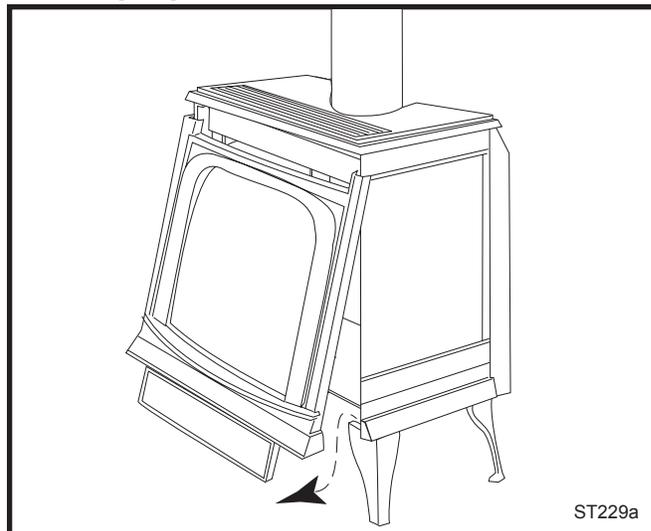

Fig. 59 Remove the Stove Front.
1. Remove stove front. Lift stove front up and then swing bottom out and away to disengage from the stove body. (Page 30, Fig. 59)
2. Lift the Stove Front up and then swing the bottom out to disengage it from the heater shell. (Fig. 59)
Replace glass only with CFM Corporation approved parts. Refer to Page 33 for Replacement Parts. Refer to Figures 59, 60 and previous instructions for removal of the damaged glass frame.
1. Remove the Front, Glass Frame and Glass Panel. (Figs. 59 & 60) Remove the old gasket. Use a razor blade to separate the glass and gasket from the frame, and to clean the glass of any remaining cement or bits of gasket. Use a cold chisel if necessary.